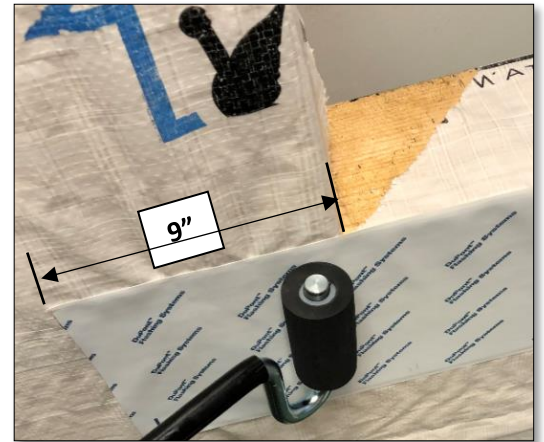

Figure 5
- 2.6 Cut and apply 9" wide self-adhesive flashing to the face of the sill extending the flashing 9" past each side of the rough opening (see Figure 5). Use a J-roller to ensure proper adhesion of flashing to the sheathing.